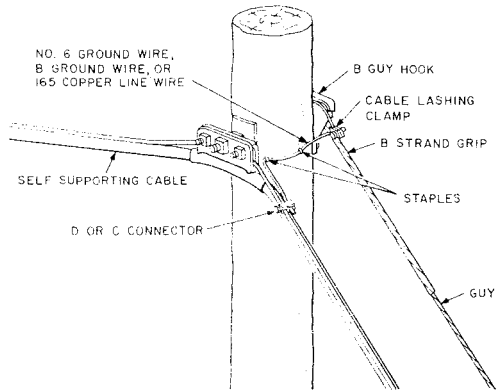

Fig. 9—Grounding Guy to Self-Supporting Strand
3.03 Corner guys connected to bolts carrying self-supporting cable are not considered electrically connected. An electrical connection may be made using a length of No. 6 ground wire as shown in Fig. 9.